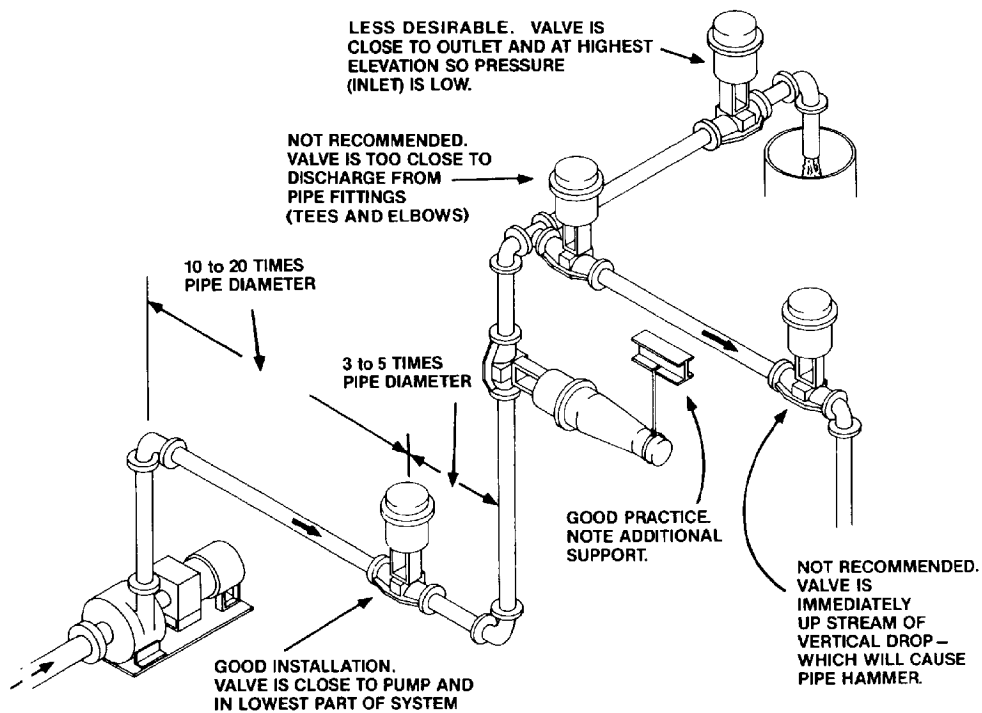

fig 1
- 3) Allow a straight run into and out of throttling valves. A good rule of thumb is 10 to 20 pipe diameters up stream, and 3 to 5 pipe diameters down stream. (Refer to Fig. 1)